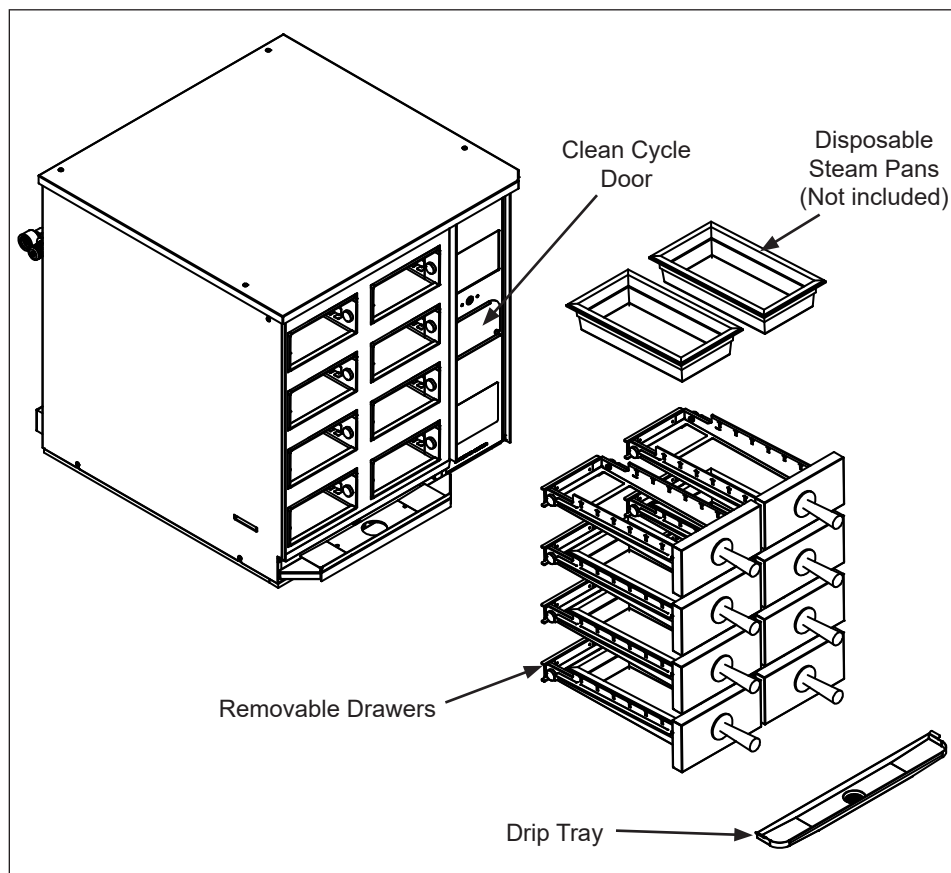

Figure 8. Steamer Drawer Components for Cleaning
Open the drawers and remove the steam pans and steam trivets (Figure 8).
1. Remove the drip trays (Figure 8).
5. Reinstall all parts (Figure 8).